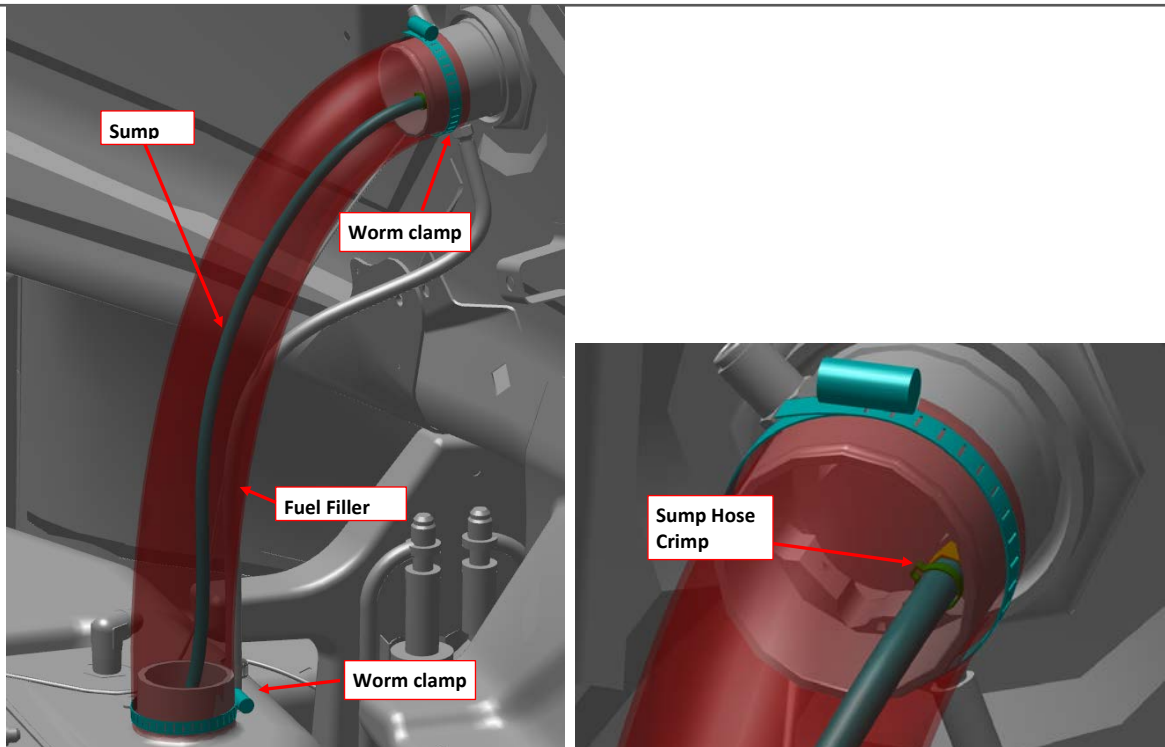

Figure 3: Fuel filler neck disconnection
2. Disconnect the fuel filler neck by loosening the worm clamps at the top and bottom of the fuel filler neck. Refer to Figure 3.
3. Disconnect the fuel sump line by removing the indicated sump hose crimp in Figure 3.
12. Connect sump line to sump port with a new hose crimp (15300010). Refer to Figure 3.
13. Assemble fuel filler neck with worm drive clamps. Torque clamps to 10-13 inch-lb. Refer to Figure 3.